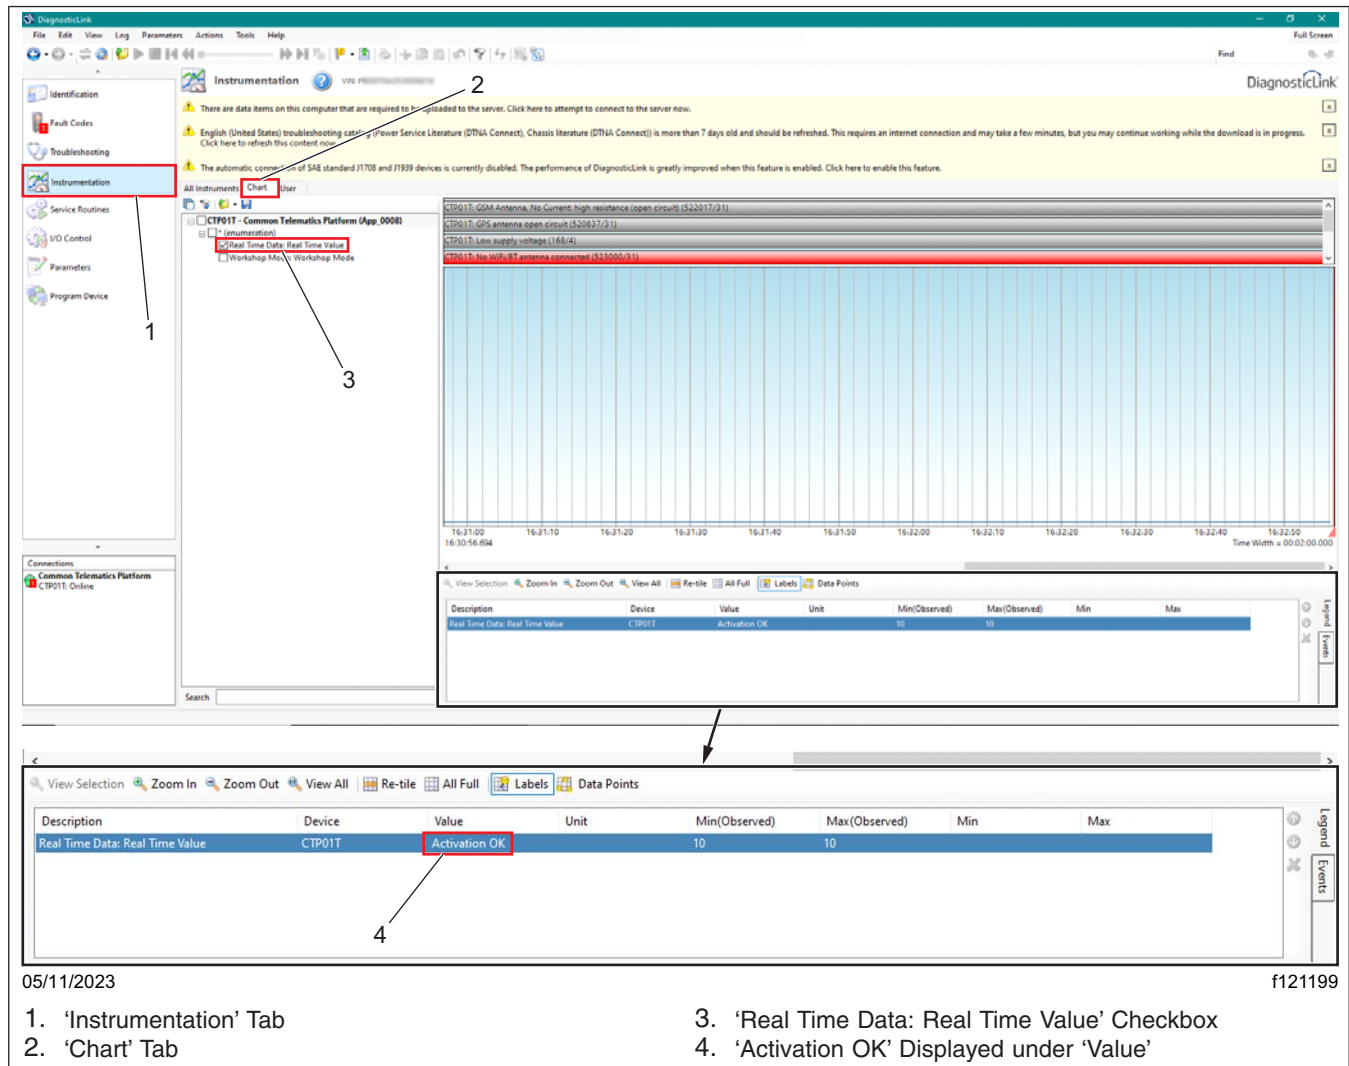

Fig. 19, CTP Software Update Successful
- 19.2 Go to 'Instrumentation' tab, select 'Chart,' then select the 'Real Time Data: Real Time Value' checkbox. Verify 'Activation OK' is displayed under 'Value,' as shown in Fig. 19.
- 19.4 Wait for an additional 10 minutes for the CTP to re-attempt establishing the network connection. If the CTP does not connect to the network, and if 'Activation OK' is not displayed under 'Value,' as shown in Fig. 19, even after 10 minutes, go to the **CTP Replacement** procedure on page 25.